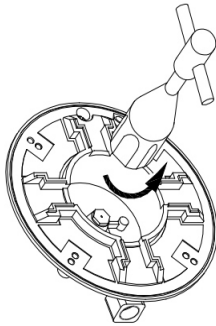

Fig.1
- With the aid of a 7mm box spanner the burner injectors can then be unscrewed and replaced by the appropriate injectors (provided).(Fig.1)